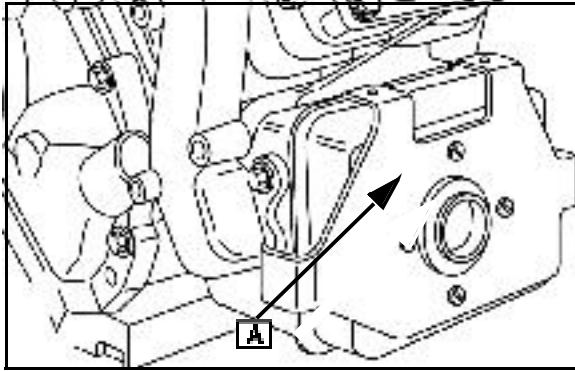

Fig. 13
3. Take the muffler guard bracket ([A] Fig. 13) off of the muffler.